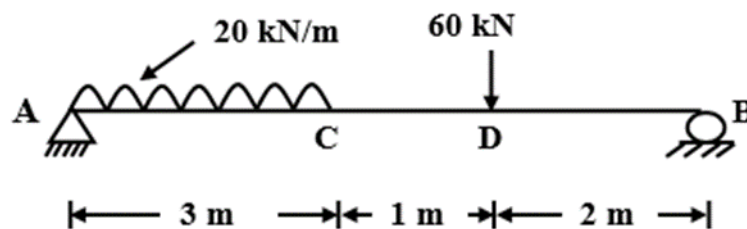

Figure 5 [Q-5 (b)]
- b) Calculate deflection at 'C' δ_c and deflection at 'D' δ_d for the simply supported beam shown in **figure 5** using Double integration method. Consider $E = 2 \times 10^5 \text{ N/mm}^2$ and $I = 3 \times 10^8 \text{ mm}^4$.